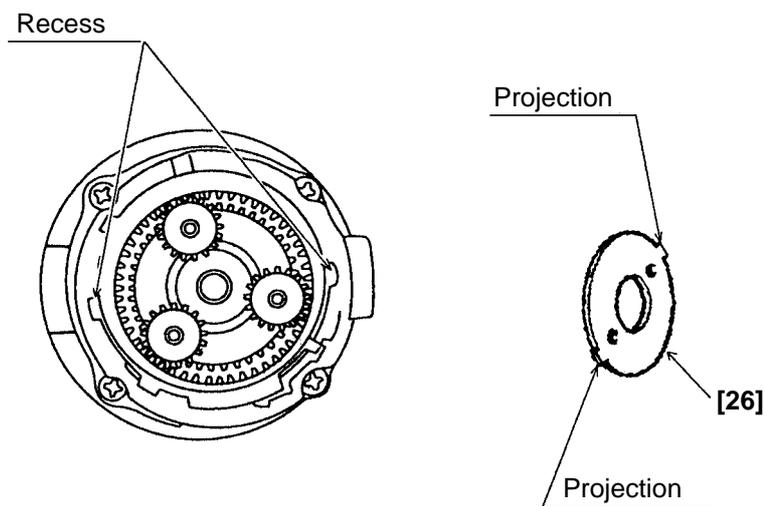

Fig. 8
- (ii) Install Washer (B) [26] in the Rear Case [17] with the projections of Washer (B) [26] engaged with the recesses in the Rear Case [17], and turn Washer (B) [26] clockwise until it can turn no further. (See Fig. 8.)